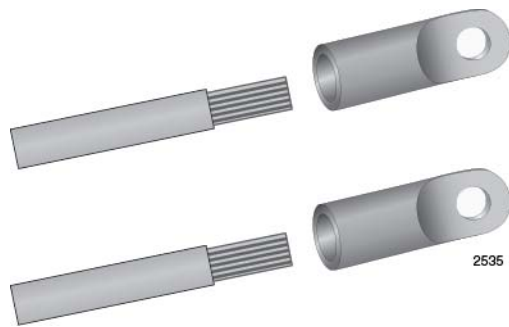

Figure 132. Attaching the Power Wires to the Straight Terminal Lugs
2. Insert the power wires into the terminals included with the power supply and use a crimping tool to secure the wires to the terminals. See Figure 132.